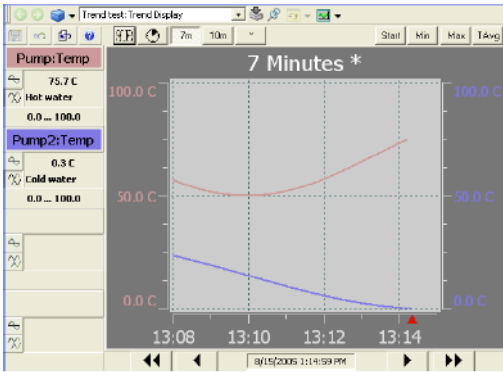

Figure 43. Trend Display Left View
- The Left View, that is, the layout where the Trend Table and Trend Tool Bar are replaced with an Item Area to the left, a Top Tool Bar and a Bottom Tool Bar (Figure 43).